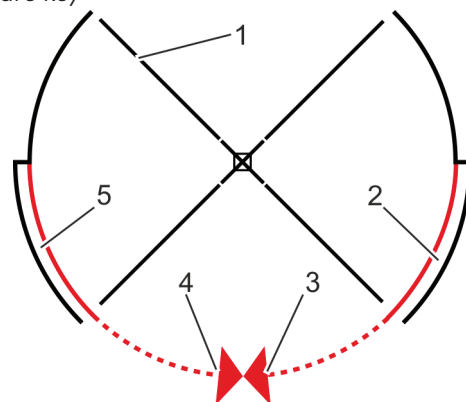

Fig. 27 Unlocking night shield elements (four wings)
Enter the revolving door (Fig. 27) and turn the wings (Fig. 27/1) manually until you have reached the night shield (Fig. 27/3 + 4).
2. Lock the night shield elements (Fig. 27/3 + 4) with the square key.
3. Slide the night shield elements (Fig. 27/3 + 4) until they stop in the side pockets (Fig. 27/2 + 5).
4. Lock the night shield elements (Fig. 27/2 + 5) with the square key.